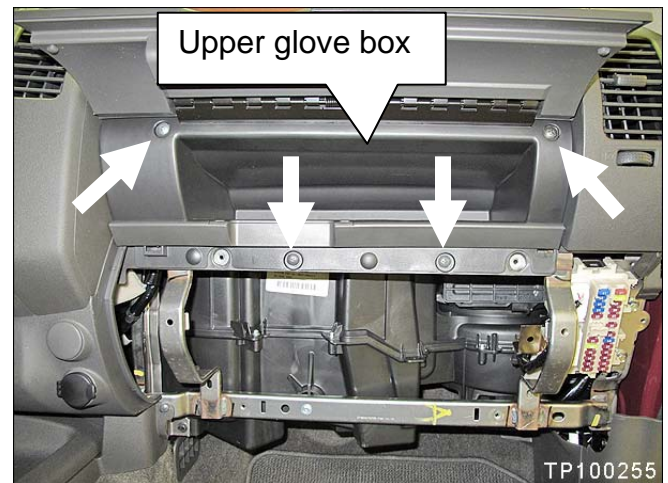

Figure 10
14. Remove the 4 screws shown in Figure 10.